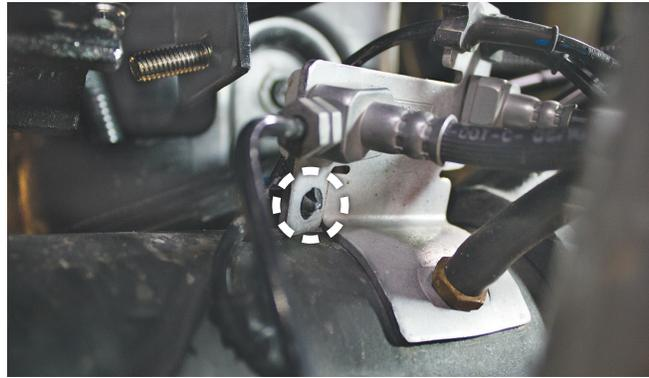

Fig. 18
1. To make room for driver's (left) side bottom air spring roll plate, it will be necessary to modify the ABS/brake line bracket on top of the axle. To do this, first remove the ABS line Christmas tree mount from the bottom left-hand side of the ABS/brake line bracket (Fig. 18).